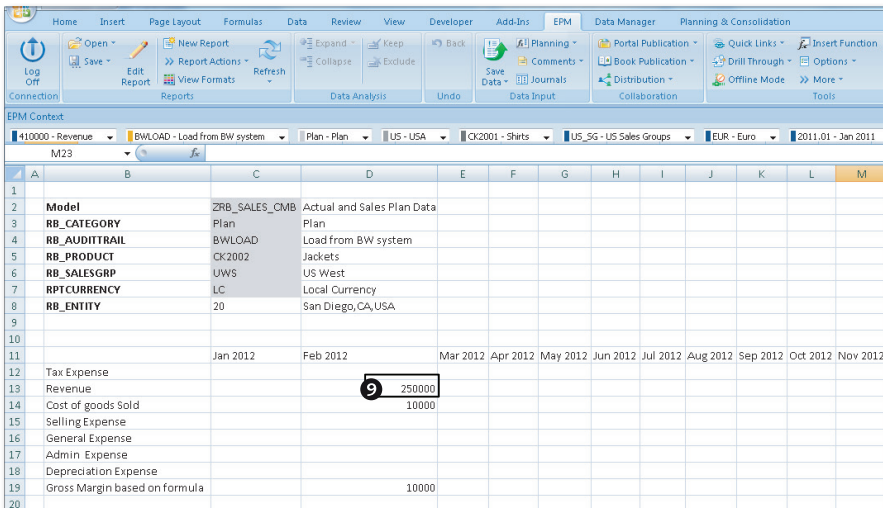

Figure 7.6 Configuring Work Status to Lock Data—Part F
11. Next, we will test to make sure that the work status setting that we just configured works as desired. Create an input form, and enter or modify plan data for entity 20 (SAN DIEGO, CA) and FEB 2012 period (Figure 7.6, 9). Then send the data to the database by selecting the SAVE WORKSHEET menu option under the SAVE DATA command.